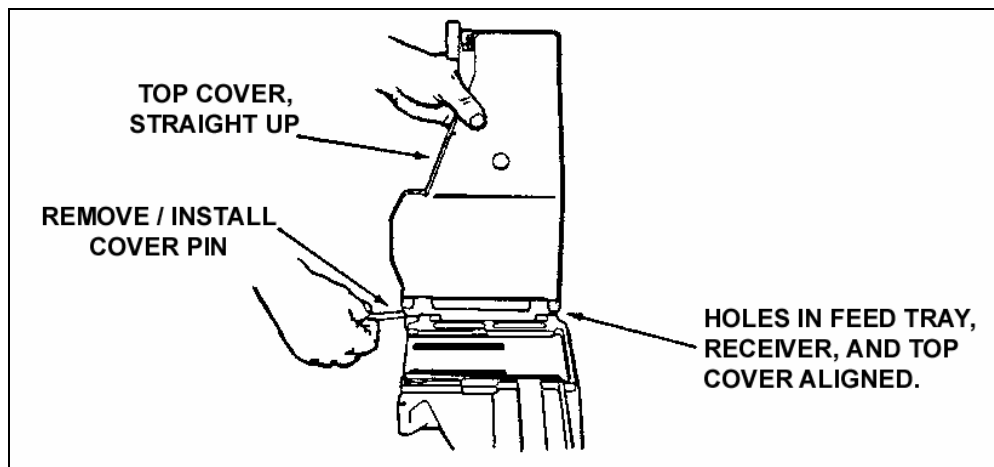

Figure 2-12. Top cover assembly.
- (3) Take off the top cover assembly by following these procedures:
- (b) Pull the top cover pins from both sides (Figure 2-12).